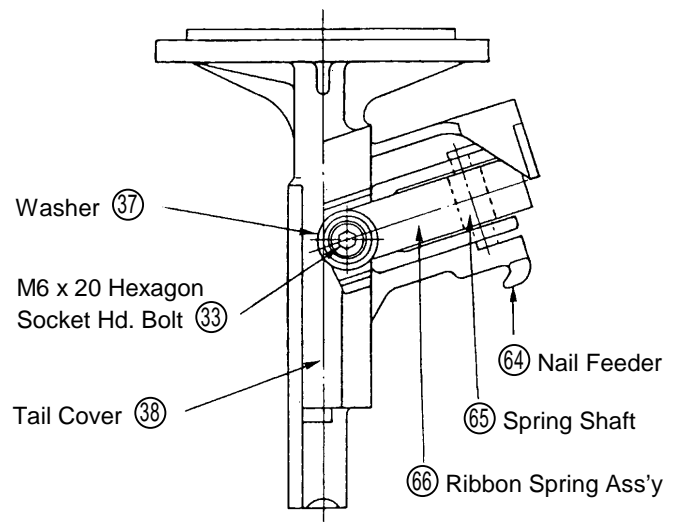

Fig. 16 Mounting of the Nail Feeder
- II) Connect the Push Lever Ass'y (50) to the Body (B) Ass'y (26) with the D3 x 30 Roll Pin (47).
- III) Temporarily attach the Ribbon Spring Ass'y (66) and Nail Feeder (64) to the Tail Cover (38) with the M6 x 20 Hexagon Socket Hd. Bolts (33) (please note that this step is not necessary if the front-side M6 x 20 Hexagon Socket Hd. Bolt (33) was only loosened and not fully removed during reassembly [refer to Fig. 16]), and assemble the Magazine Base Ass'y (69) (refer to Para. 1-3- (1)).
- As illustrated in Fig. 16, temporarily fix the Ribbon Spring Ass'y (66), Spring Shaft (65) and Nail Feeder (64) onto the Tail Cover (38) with the front-side M6 x 20 Hexagon Socket Hd. Bolt (33), and slide the Magazine Base Ass'y (69) onto the Tail Cover (38). Then, secure the assembly by tightening the M6 x 20 Hexagon Socket Hd. Bolt (33) on the Guard (36B) side and the two M5 x 25 Hexagon Socket Hd. Bolts (72) to rated torque (see Para. 1-4).
- Finally, loosen the front-side M6 x 20 Hexagon Socket Hd. Bolt (33), shift the Nail Feeder (64) fully back into the magazine, ensure the Magazine Base Ass'y (69) is properly aligned, and tighten the front-side M6 x 20 Hexagon Socket Hd. Bolt (33) to rated torque (see Para. 1-4)
(2) Stop Lever (74), Stopper Spring (76), and Related Parts: